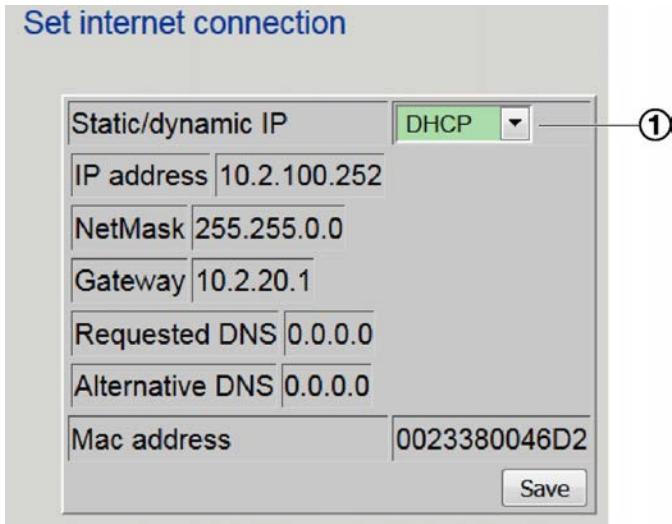

Fig. 27: Setting the static IP address
- ▶ Select 'Static IP' from the drop down list (Fig. 27/1), then set the following parameters: